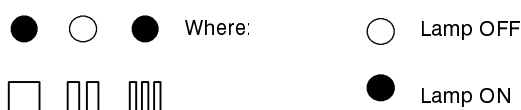

Fig. 46
- 12 Press the reset button C repeatedly (4 times) until the lamps E give the indication as in Fig. 46 (ignition pressure adjustment mode).